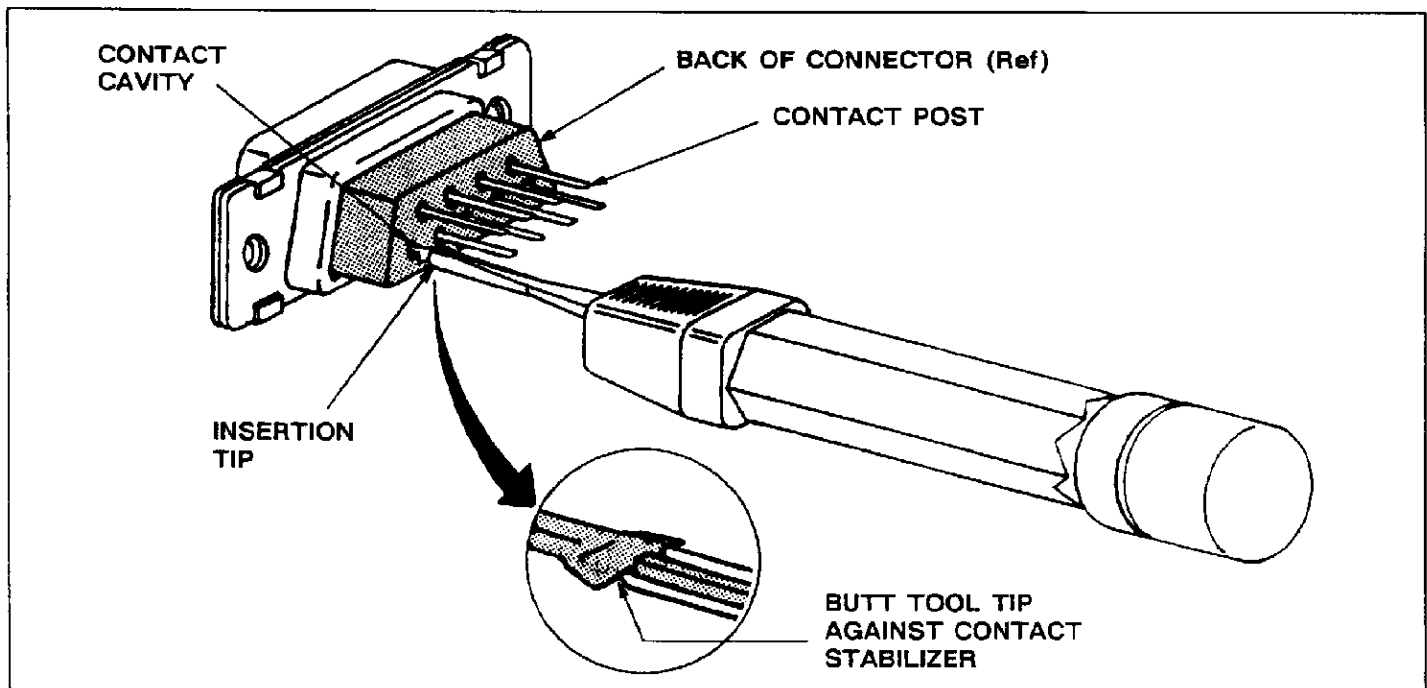

Fig. 5
C. Inserting A Posted Contact (Figure 5)
2. Position the tip over the contact post. Move the tool along the post until the tip butts against the contact stabilizer. Align the tip on the stabilizer as shown in Figure 5.